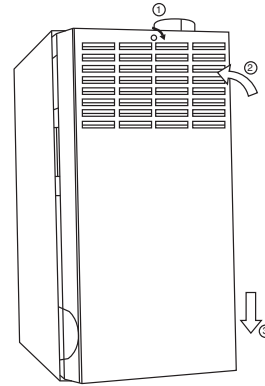

Fig. 9 - Furnace Door Replaced
6. Replace the outer furnace door. (See Fig. 9.)
6. Replace the access door. (See Fig. 9.)